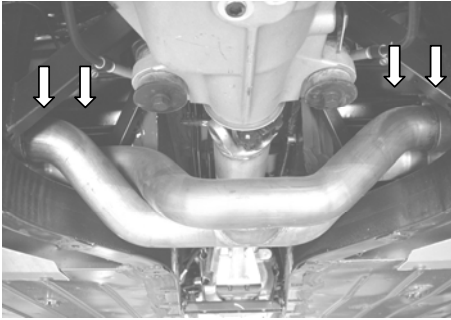

Figure 3
3. Loosen the clamps located on each end of the cross over pipe assembly shown in figure 3. There are 4 total.